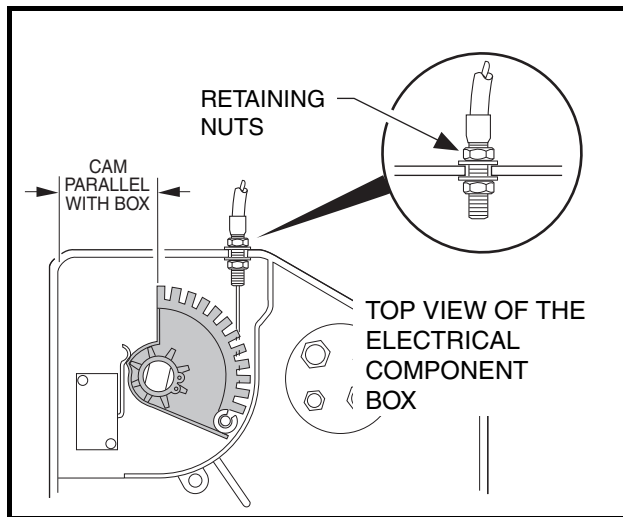

Figure 5-19 Accelerator Cable
- 5.2. Loosen the jam nuts (25) and disconnect the accelerator rod (17) at the accelerator pedal (**Figure 5-6, Page 5-7**). Adjust the length of the rod so the indicated cam edge is parallel with the edge of the electrical component box as shown (**Figure 5-19, Page 5-15**). **See following CAUTION.**